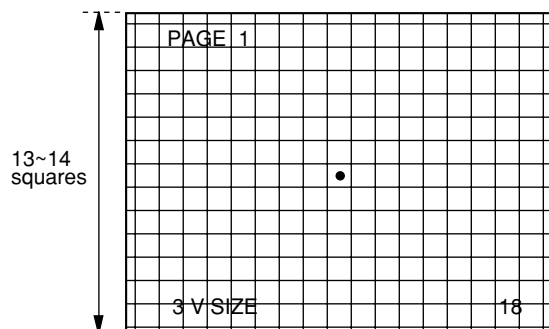

Fig.1-3
- Using the volume keys on the jig remote controller, adjust the vertical number of squares on the crosshatch screen to 13 or 14. (Fig. 1-3)